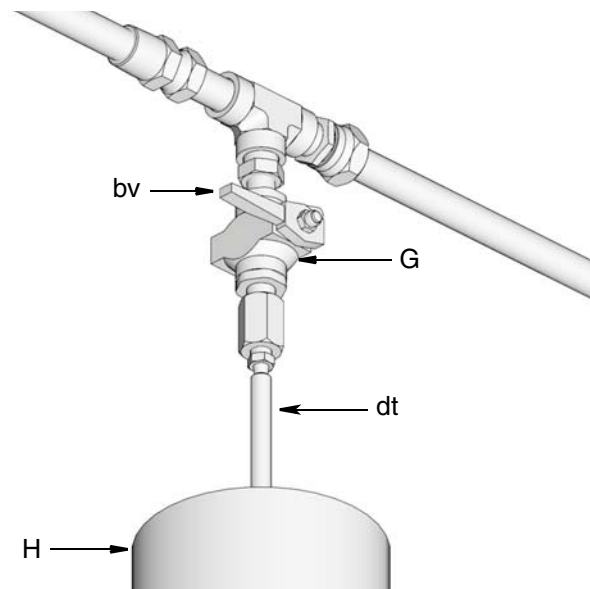

FIG. 7: In line installation shown
3. Turn off air supply to refill pump (P).
4. Relieve pressure between the remote filling station pump (P) and the Auto-Fill Shut Off (S):
- a. Open ball valve (bv) (FIG. 7). Pressure will be released and excess fluid will drain out of the drain tube (dt) and into the lubrication collection container (N).